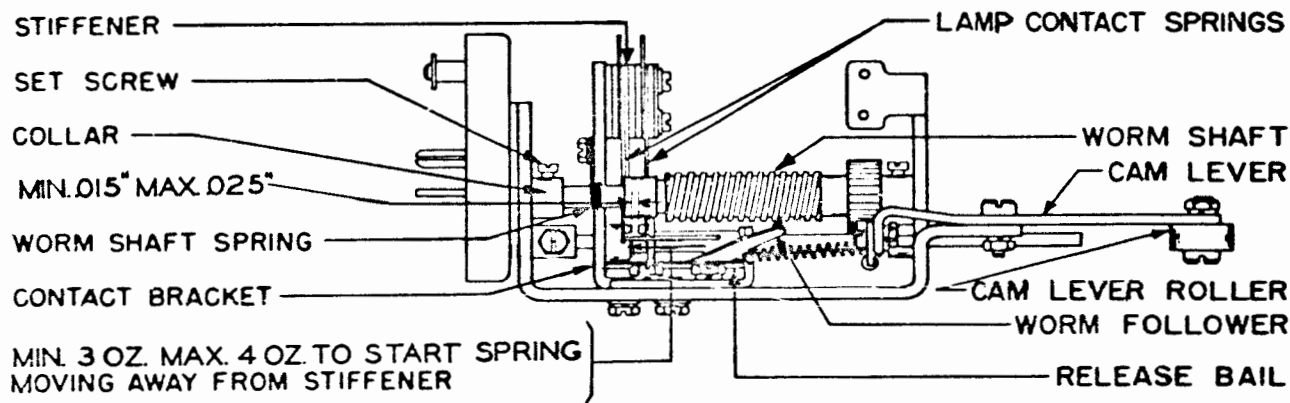

Figure 3
2.06 Worm Shaft: The worm shaft should be free to rotate, with a minimum amount of endplay, when the worm-shaft spring is detached from the contact bracket. (See Figure 3.)
2.08 Lamp-contact Springs: The front lamp contact spring (left hand in Figure 3) should press against its stiffener. If the mechanism is removed for any reason the tension of the spring against the stiffener should be adjusted to minimum 3 ounces, maximum 4 ounces. (See Figure 3.)
With the front contact spring in the unoperated position, there should be minimum 0.015 inch, maximum 0.025 inch clearance between the front and rear contacts. (See Figure 3.)